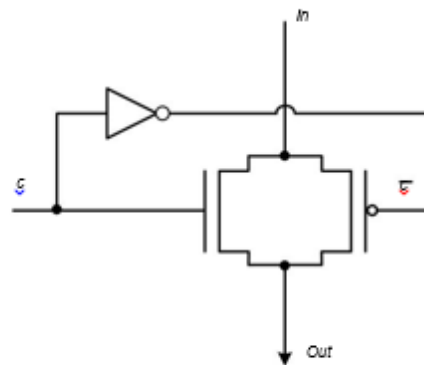

Fig. 1.7: Schematic diagram of CMOS transmission gate
- 2 Design CMOS *transmission gate* in detail (Fig. 1.7), in *cmos65n* technology (65nm *technology*, $\gamma=35\text{nm}$) and dimensions: $W_p=280\text{nm}$, $W_n=140\text{nm}$, $L_p=L_n=70\text{nm}$, where W is the width of the transistor channel and L the length of the transistor channel. Use the previous circuit as an inverter (Subject 1). Also simulate the circuit with a square wave input (0 – 1V) with the gate open ($C=1$) and closed ($C=0$).